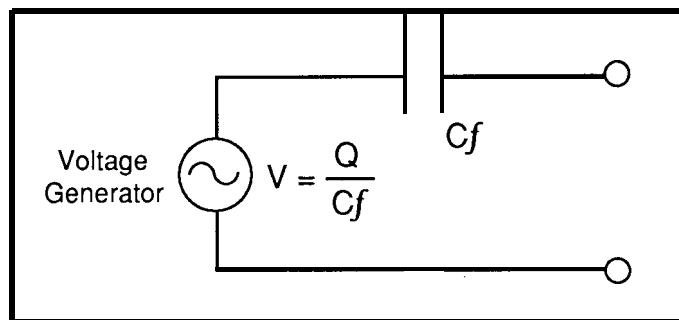

Figure 6—The simplified electrical equivalent of piezo film is a voltage generator whose output depends on the induced charge (Q) and film capacitance (C).
Now, it was time to actually connect a sensor to the computer and see what happens. Figure 6 shows that the simplified electrical equivalent of piezo film is a voltage generator whose output depends on the induced charge (Q) and film capacitance (C). Hmm... didn't I see something in one of these data sheets about hundreds of volts...? Indeed, under terminal stress, a small (12 x 30 mm) foil can generate 830-1275 volts!